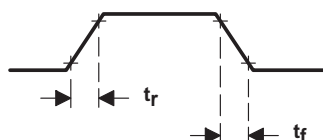

Figure 26. Signal Switching Timing
**general purpose output signal switching time requirements (see Figure 26)**